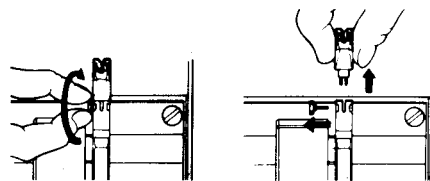

Fig. 9
2. Completely loosen the setscrew and pull out the cartridge. (Fig. 9)